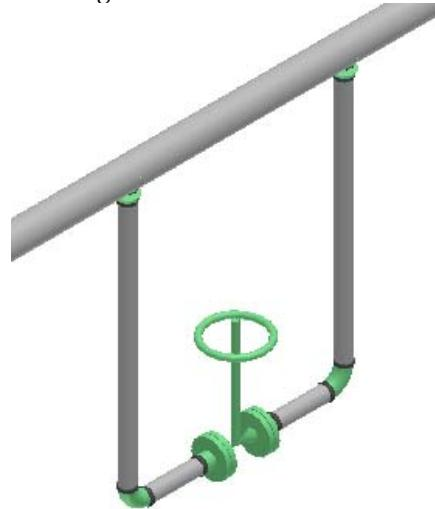

Figure 23: Placed Bypass Line
12. The software uses P&ID and design basis to select the appropriate pipe component. Click **Finish** on the **Insert Component** ribbon to place the gate valve, as shown in Figure 23.